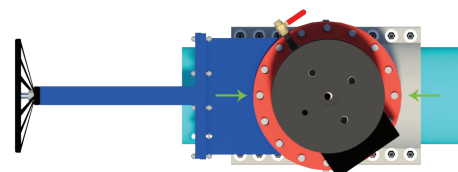

Figure 12 – Alignment nut placement for insertion housing alignment
3.1.2) Thread 2 alignment nuts onto the studs which connect the insertion housing to the temporary gate valve. Place these nuts at the locations shown (see Figure 12). Install alignment nuts so that the tapered part of the nut enters the flange hole. This may require adjustment of the tapping / installation housing.